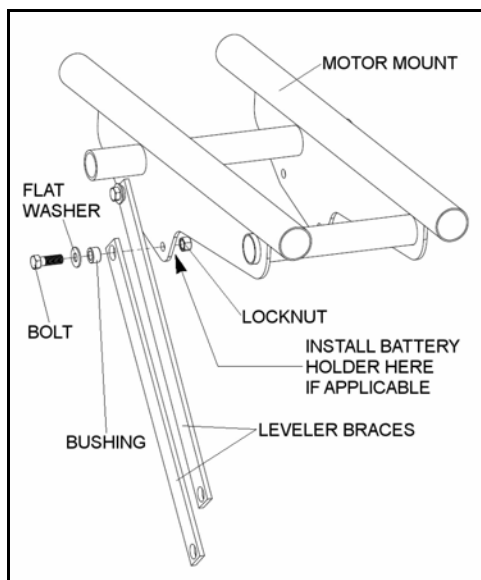

Figure 3.30 Mount Assembly
5. Attach 2 vertical leveler braces to side of motor mount as shown in Figure 3.30. Use two 7/16" x 1-1/2" bolts, locknuts, 7/16" flat washers and leveler bushings to install the leveler connector. Each bolt should be installed by first putting a washer on it, followed by a bushing. Pass the bolts through the vertical leveler brace first, and then the motor mount.
If your auger comes with a battery holder, install holder before attaching locknut (see Figure 3.30). Use two 7/16" x 1" bolts and locknuts to secure the other side of the holder. See "Battery Mount (Optional)" on page 51.
2. Secure bottom plate of the battery mount to the leveller braces using six 1/4" carriage bolts and six 1/4" whiz nuts as shown in Figure 3.30 and 3.51.